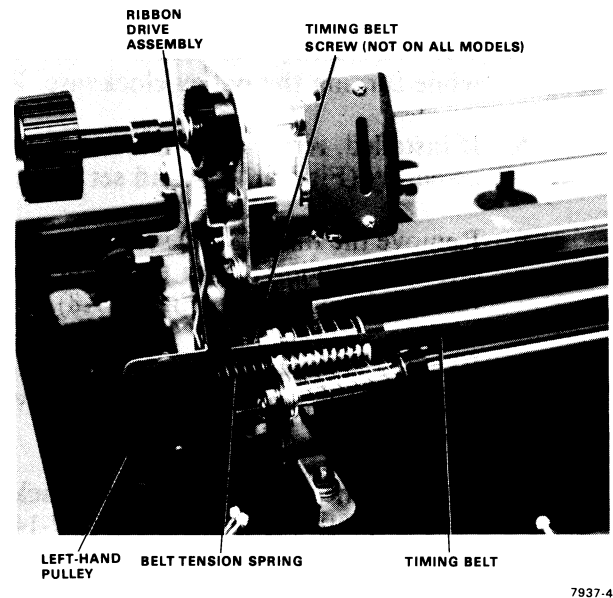

Figure 7-7 Belt Tension Spring Location
1. With the belt tension spring (Figure 7-7) in place, press the left-hand pulley against the printer mechanism and slip on the new timing belt.